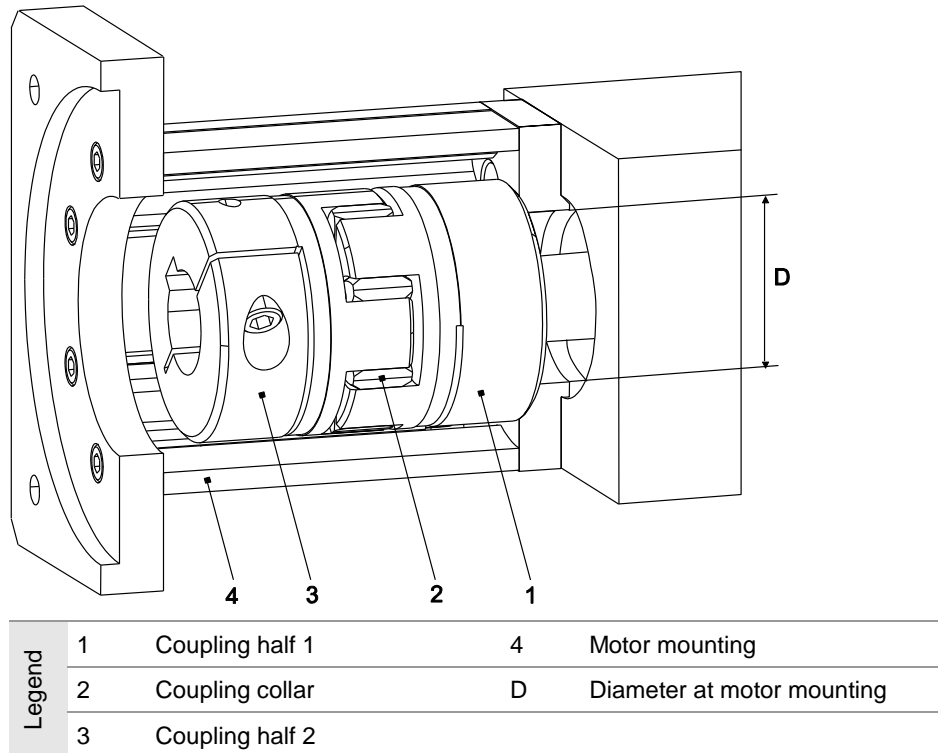

Figure 4: Motor mounting with motor coupling at drive journal
3. If the coupling diameter is smaller than the D measurement at the motor mounting (4), first mount the coupling half 1 (1) (bore flush with the drive shaft) and then the motor mounting (4) (Figure 4).